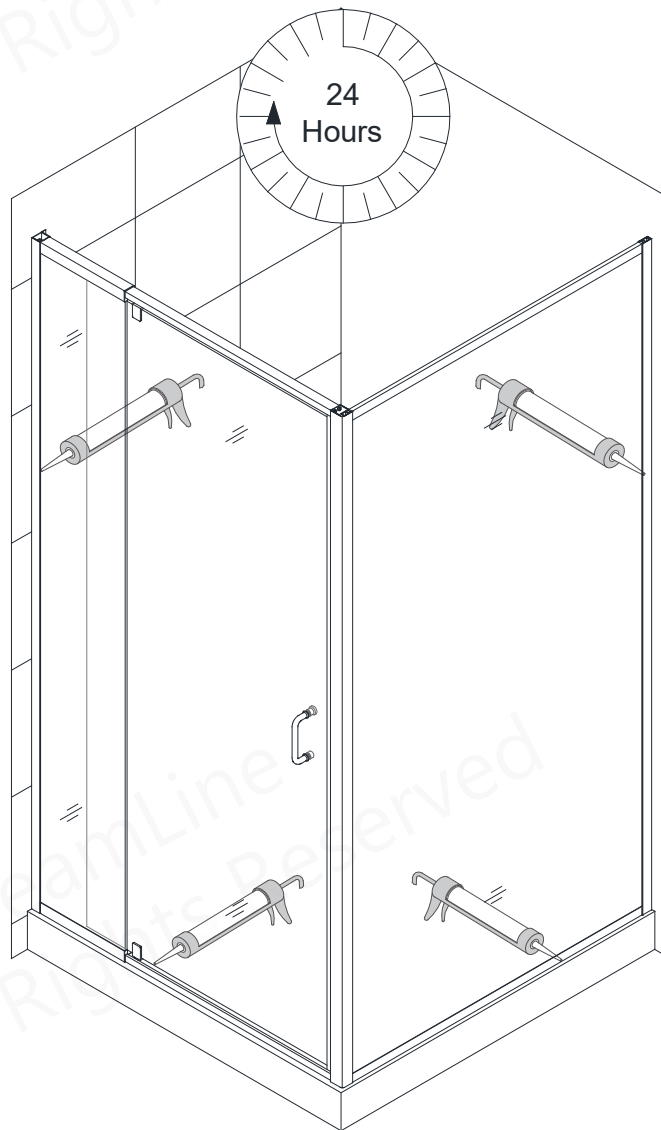

Fig 13
13. Apply a good quality mildew-resistant silicone along the interior perimeter where the profiles meet the walls and threshold. **(Fig 13)**